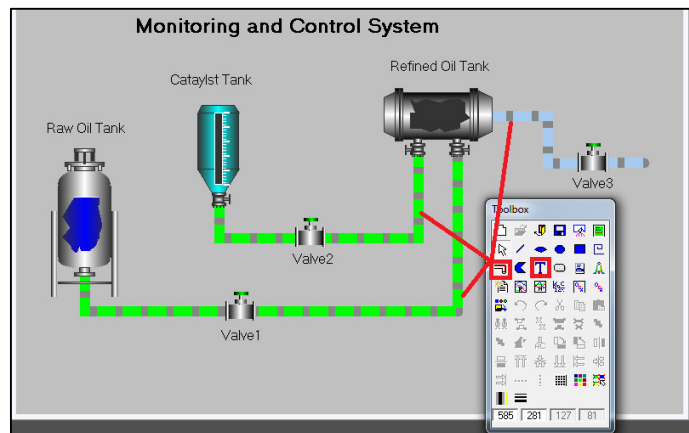
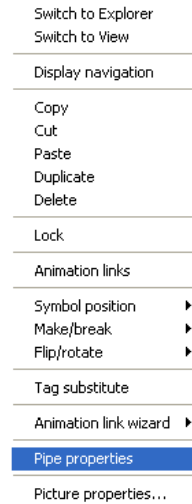
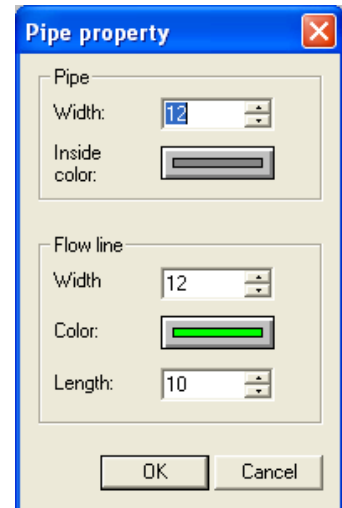

Fig. 28 Insert a Genius from Reaction
Fig. 29 Pipe Menu
Fig. 30 Pipe Setting
- Place the genius on the picture as shown in Fig. 28.
- Use "Pipe" to connect tanks and valves such as Fig. 28 shown. Right click the pipe and choose "Pipe Property" to configure it. See Fig. 29 and Fig. 30.
- Put "Text" on the picture as shown in Fig. 28. If you want to change the text font, select the text and click menu "Tool->Font" to configure the font style as needed.